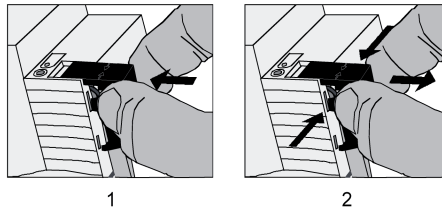

Figure 5: Installing / removing the protective cap for the bus connection
- To install the cap: slide the cap over the bus terminal until you feel it engage (figure 5).
- To remove the cap: Remove the cap by pressing the sides slightly and by pulling it out to the front (figure 5).